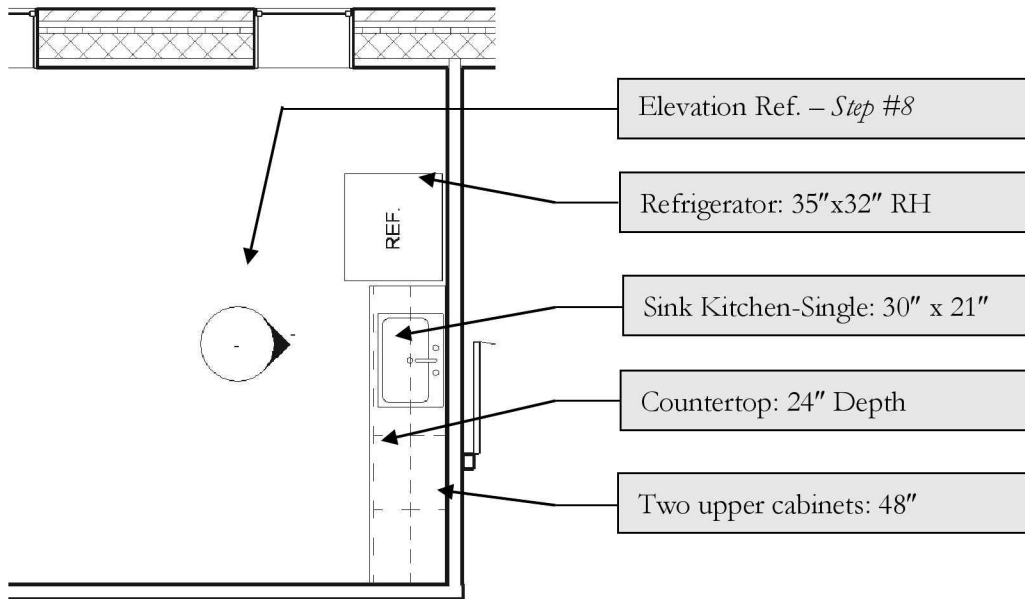

FIGURE 11-2.4 Completed plan view
Add the remaining items as shown in Figure 11-2.4; be sure to use snaps. (E.g., place sink to one side, use move and snap to a mid-point of the sink bowl and then to the mid-point of the same line representing the hole in the countertop).
7. Add an interior elevation tag to set up the interior elevation view (Figure 11-2.4).